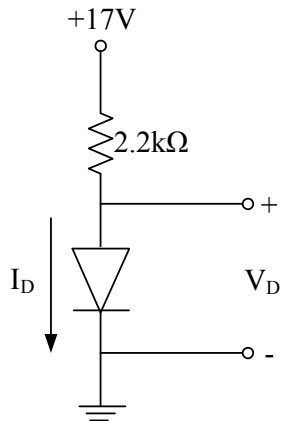

Figure 2 Circuit for testing diodes.
2. Build the circuit in Figure 2. Measure the current i_D with an ammeter. Then calculate the current you would expect from this configuration using your plots from step 1. This can be done most easily by drawing a load line ($V_D = V_{SS} - I_D R_D$) on your plot of the characteristic curves. A load line is simply a plot of the straight line resulting from application of Kirchhoff's voltage law to the loop including the diode, the resistor, and the source. Record your results in Table 1 and compute the percentage errors.
Table 1: Currents measured and calculated for Figure 2: graphical calculations.
Table 2: Currents measured and calculated for Figure 2: linear diode approximations.